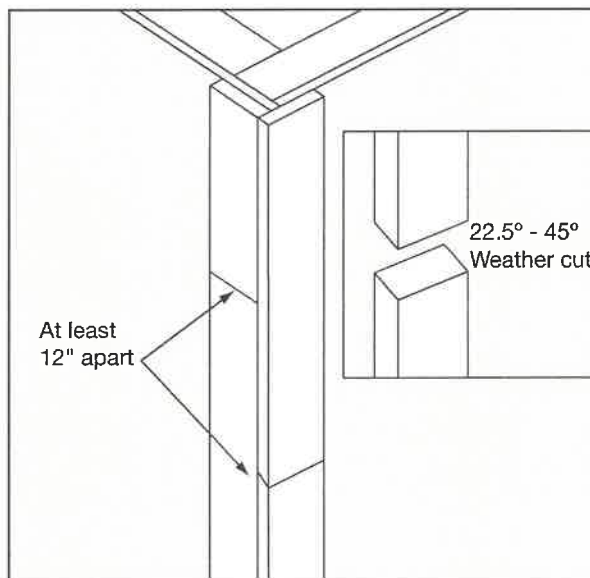

Fig. 10
- In situations where the height of the home requires more than one piece of corner trim installed vertically, create a 22.5° - 45° weather cut at the butt joints where angle will slope down and away from the building **(Fig. 10)**
- Stagger joints on both sides of the corner **(Fig. 10)**